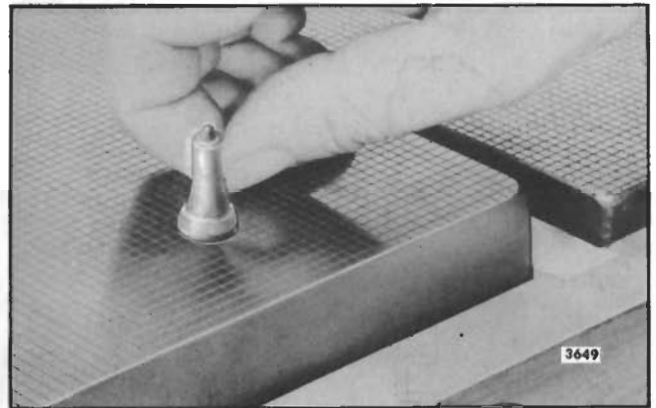

Fig. 33 - Lapping Spray Tip on Lapping Blocks J 22090
3. Place the part to be lapped flat on the block as shown in Fig. 33 and, using a figure eight motion, move it back and forth across the block. Do not press